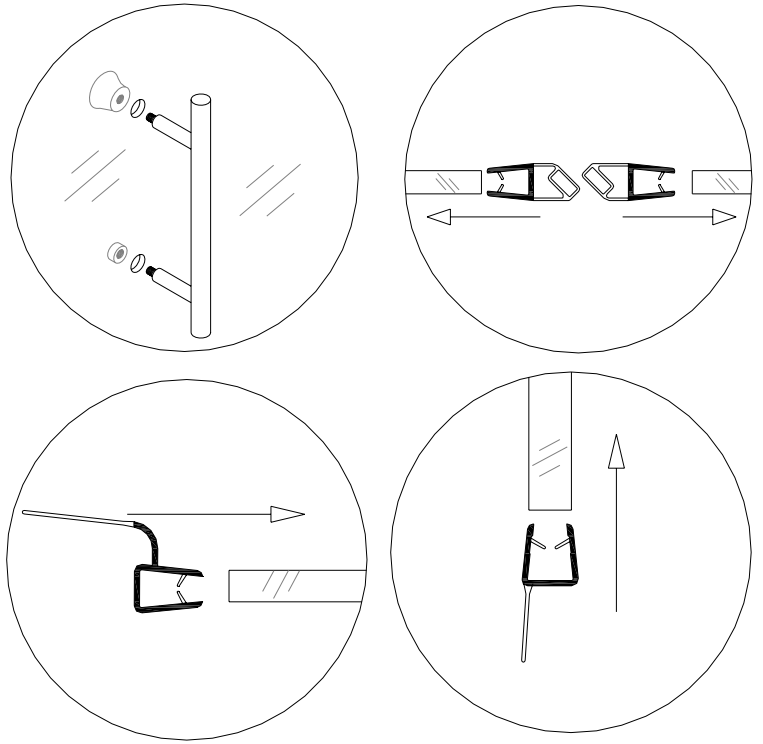

Fig 8
9. Install the **Handle (6)** to the **Glass door**. Don't forget to use the rubber gaskets between the glass and washers. Push on the **Magnetic strips (8)** on the glass door and the stationary panel, the **bottom door anti-water strip (9)** and the **Flanged anti-water strip (10)** to seal between the glass door and the other stationary glass panel (Fig 8).